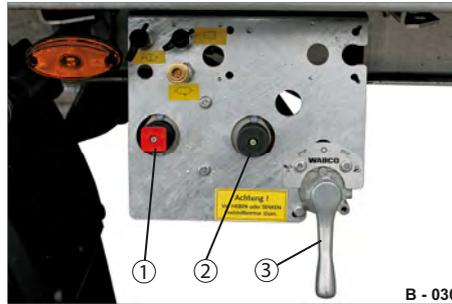

Fig. 35 Actuating the parking brake
- ▶ Check that the pneumatic suspension turning lever (Fig. 35/3) is in the neutral position. The trailer is not lowered or raised.
- ▶ Engage the spring-loaded parking brake (Fig. 35/1). This brakes the trailer.